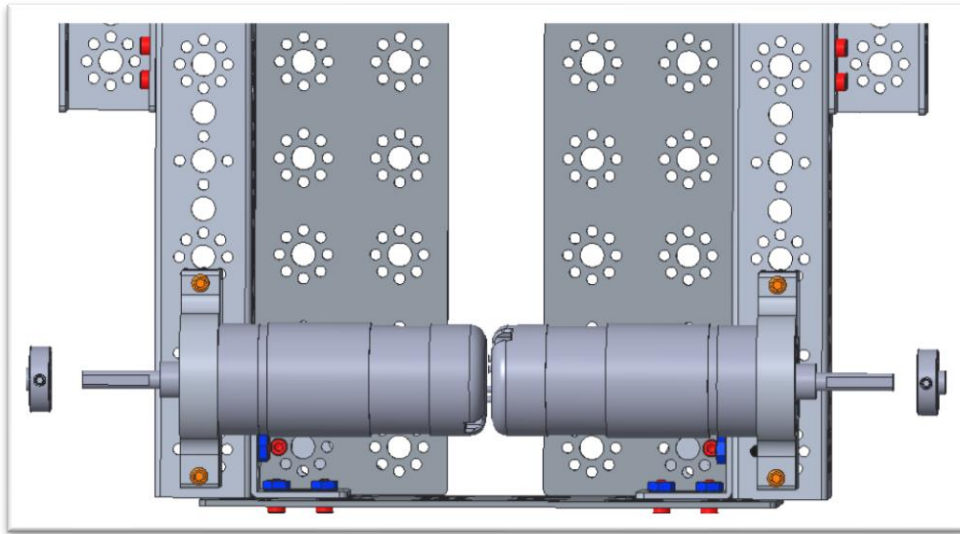

Figure 28- Unassembled view
- *Mount the motor so that the axle is far away from the frame and so that the hole aligns with the slot (as shown in Figure 28).*